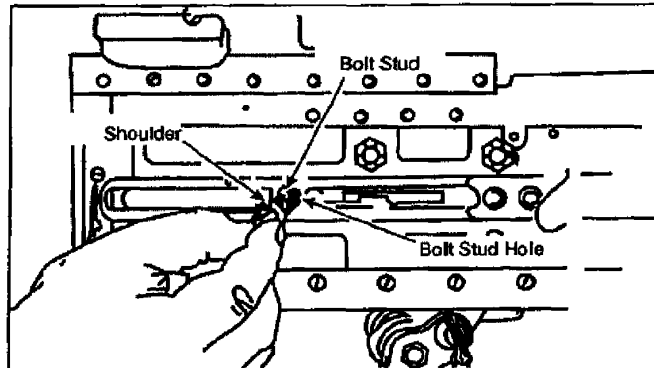

Figure 071-022-0001-6. Removal of the bolt stud
(2) If you accidentally move the bolt all the way to the rear, the bolt latch will engage in the bolt latch notches in the top of the bolt. If this occurs, raise the bolt latch and push the bolt forward to align the bolt stud with the clearance hole (figure 071-022-0001-7).